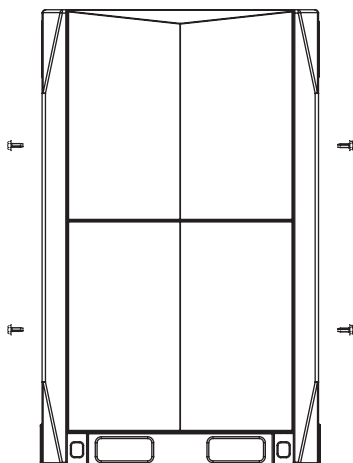
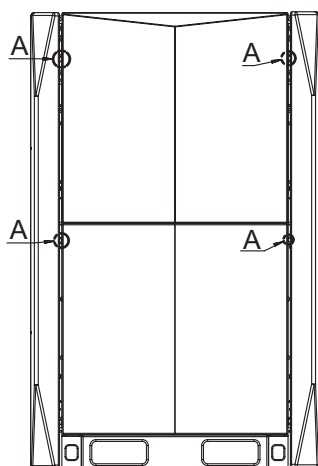
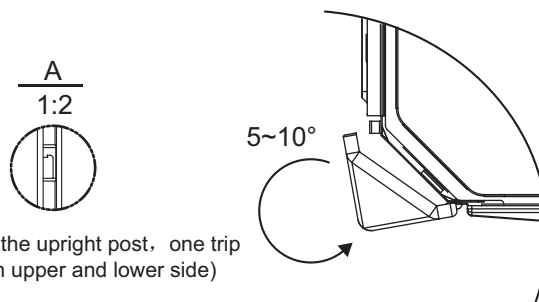

Fig. 4-15
Fig. 4-16
Fig. 4-17
1. First, dismantling the frontal left and right upright posts: dismantle the 4 screws of the left and right upright posts. (Fig 4-15), and then rotate the upright posts and uplift them for around 2mm(Fig 4-16 and Fig 4-17) to remove the left and right upright posts.